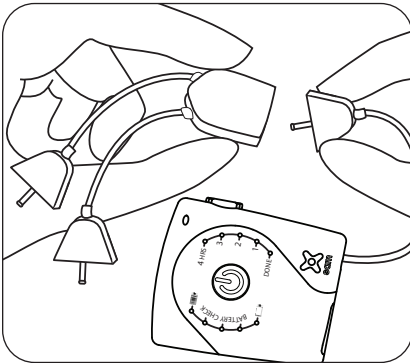

figure 8\*: Connecting Y-Adapter
The Y-adapter (optional) may be used to power two Applicators simultaneously. As shown in Figure 8 on page 17, connect the Y-adapter directly to the Power Controller wire and then connect each Applicator to a wire jack at the other end of the Y-adapter.
*\* If using 2 applicators: first connect the Y-adapter directly to the power controller wire jack and then connect each applicator to a wire jack at the other end of the Y-adapter (Figure 8\*).*